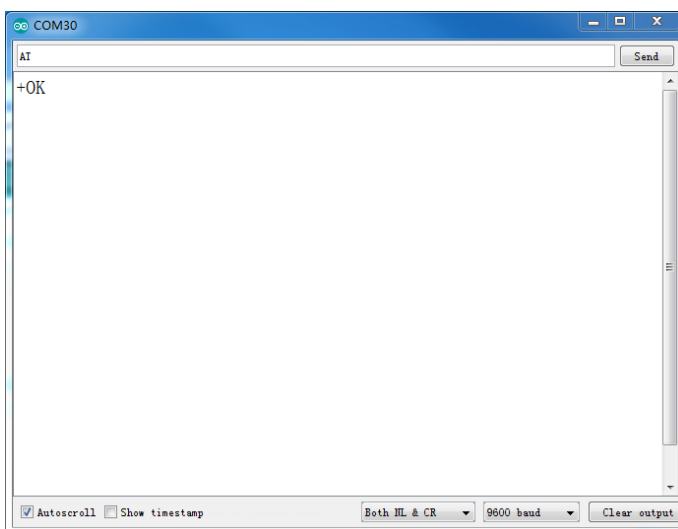
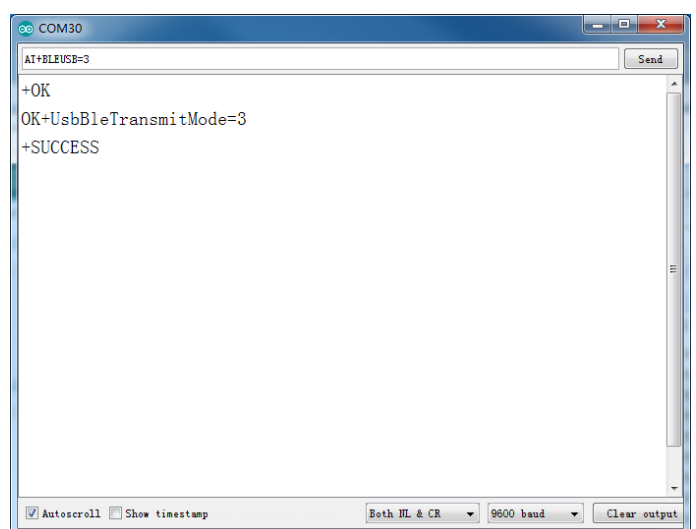

Figure 1.11
Figure 1.12
- 2) The test AT instruction is shown in figure 1.11. The USB and bluetooth data transmission mode of BLE-Uno is set as USB serial port data and BLE transmission as shown in figure 1.12